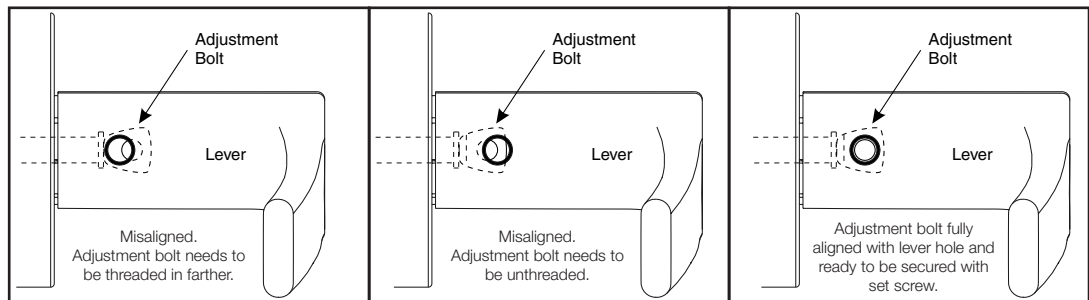

Figure 28
**MAKE SURE KNOB IS FULLY INSERTED INTO INSIDE ADAPTER PLATE BEFORE ADJUSTING ADJUSTMENT BOLT. (FIGURE 28)**